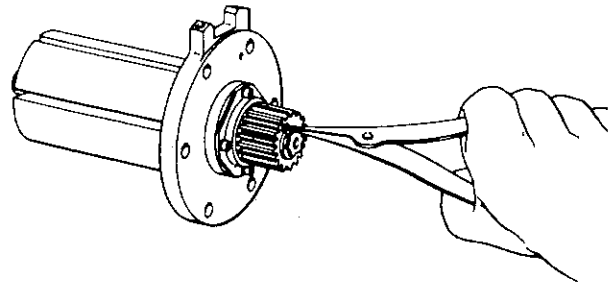

Figure 6.5
7. Using snap ring pliers, remove the pinion retaining ring (45) from the rotor shaft. See Figure 6.5.